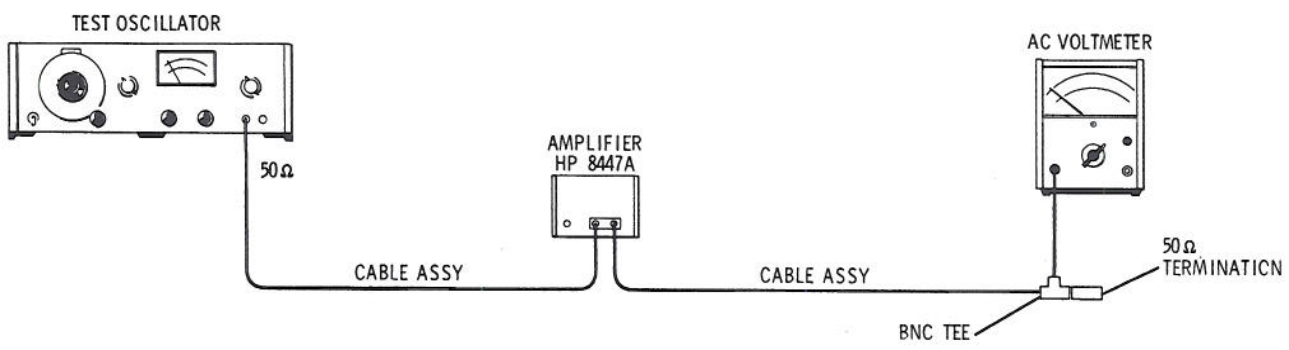

Figure 4-2. Flatness Test Setup: 100 kHz to 1 MHz
9. Connect the test setup as shown in Figure 4-2. Set the Model 400E to the -20 dB range and adjust the Model 651B output at 1 MHz to obtain the same relative reading from 0 dB on the Model 400E as in measured in step 8. Note the level variation on the Model 400E as the Model 651B frequency is tuned from 1 MHz to 100 kHz. (20-30°C)